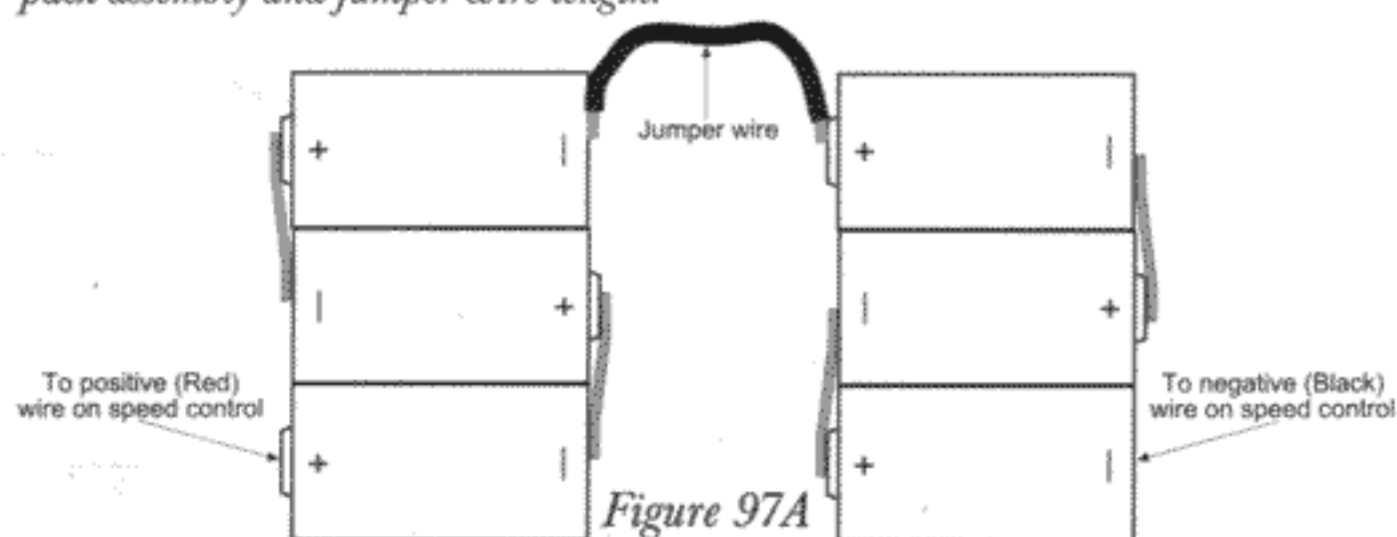

Figure 97A
□ Step 21. Install the battery pack (*not included*) in the chassis (30) as shown. The jumper wire between the two blocks of cells should run over the chassis cover (53), in front of the wide, flat surface as shown.
□ Step 22. Place the two tabs on the battery hold-down strap (168) under the wide area on top of the chassis cover (53). With the tabs in place, pull the outside of the strap (168) down so the post (166) is inserted through the hole in the strap (168). Secure the strap to the post by installing a body clip (113) in the lower hole in the post (166).
***NOTE:** See Figures 97A and 97B for a diagram showing battery pack assembly and jumper wire length.